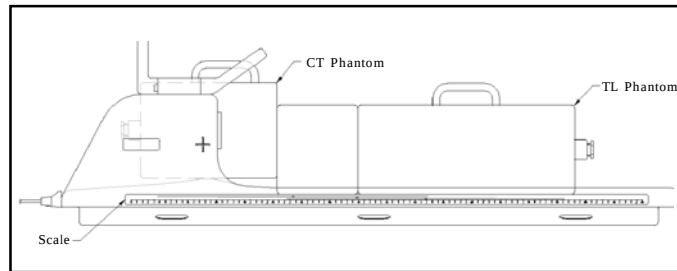

Figure 4: Positioning the phantom set.
- To change the quadrature configuration for magnets with reversed polarity, follow these steps: (1) locate J3 on the feeding board; (2) the normal position for the jumper should be 1-2, 3-4; (3) remove both jumpers and reposition them as 1-3, 2-4; (4) all six feeding boards need to be modified.
- QA Setup -- Select [New Study], [New Exam] or [New Pt] to set a new landmark. Remove the Quad Head Coil or any other surface coil (if present) from the cradle. Caution! The Quad Head Coil must be completely removed from the cradle before performing a body scan. Failure to do this may result in damage to the Quad Head Coil. Place the Phased Array CTL Spine Coil at the center of the cradle. Place the CTL phantom set directly on the coil; do not use the pads (see Figure 4). The set consists of the CT phantom (GE Part 2225545-4, USAI Part 150028) and the TL phantom (GE Part 2225545-3, USAI Part 150027). Make sure the ears of the CT phantom are positioned firmly against the coil sides. Place the TL phantom so that it is positioned face to face against the CT phantom (see Figure 4). Minimize spacing between the coils by pushing the TL phantom against the CT phantom. Connect the Phased Array CTL Spine Coil connector to the phased array port.